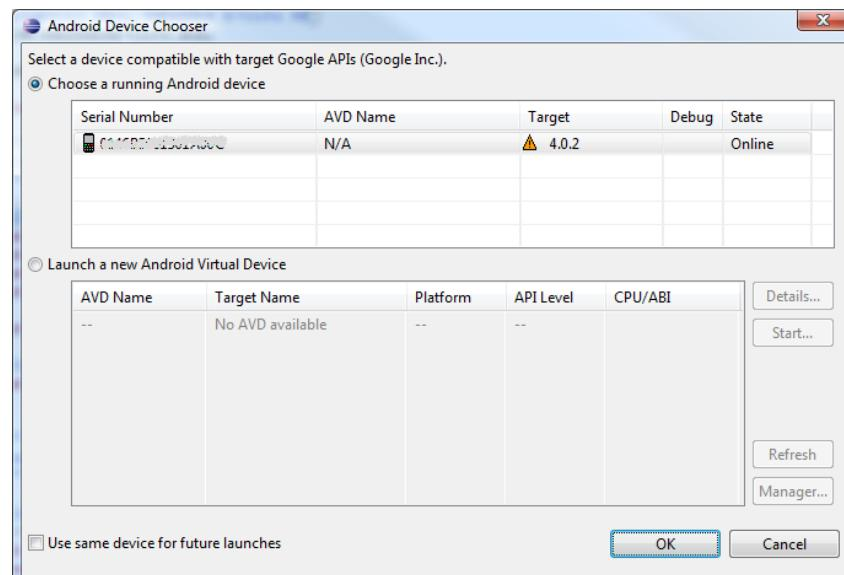

Figure 30 – Android Device Chooser
- 4) The Android Device Chooser appears (see Figure 30). The connected Android device should be listed under Running Android devices. Select it and press OK.